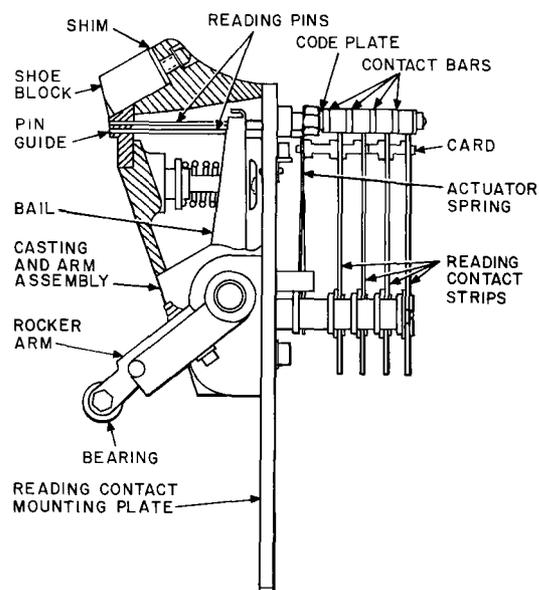

Fig. 28—Sectional View of Reading Contact Assembly and Associated Parts
(1) Remove the studs supporting the plug associated with the reading contacts using the 417A wrench. Remove the cable clamp of the associated cable using the 3-inch C screwdriver. Remove the cover. Remove the reading contact assembly mounting plate screws using the proper size Allen wrench.
(2) Remove the reading contact assembly (Fig. 28) and the associated cable and plug. Place them on a workbench with the contacts up. The tape shoes and, if provided, the loose tape plate forming part of the tape chute assembly will drop out of place when the reading contact assembly is removed. Remove the screws holding the casting and arm assembly to the reading contact assembly mounting plate using the proper size Allen wrench. While holding the casting, lift the reading contact assembly mounting plate from the casting and arm assembly.
(3) Remove the reading pins to be replaced and carefully insert new pins as required. To avoid bending new pins, do not force them in place. After the pins are in the bail, it may be necessary to move them slightly from side to side and up and down to guide them into the holes in the pin guide. If difficulty is experienced in inserting the pins, check to see that adjacent pins are correctly located in the holes in the pin guide. Check that there is a pin in each hole. This may be observed by holding the assembly above eye level with the arm of the assembly down and in the operated position. Place the casting and arm assembly on a workbench with the arm down and carefully position the reading contact assembly mounting plate so that the dowels enter the corresponding holes. Insert the four mounting screws and tighten them securely using the proper size Allen wrench.
(4) If the heli-coil inserts in the tapped holes in the reader frame for mounting the reading contact assembly mounting plate are loose or damaged, replace them as covered in 3.53 through 3.57.
(5) Mount the reading contact assembly on the reader and securely tighten the mounting plate screws. Mount the plug and cable clamp. Set the dial at 100. Any contact not made with the dial so set, except the G1 or G2 contacts (which make alternately on alternate steps of the drum), indicates that the associated pin is not in the hole in the actuator spring but is resting on the spring. Where such a condition occurs, guide the end of this pin into the hole using the tweezers.
(6) When all contacts are made, except either the G1 or G2 contacts, the pins are in the